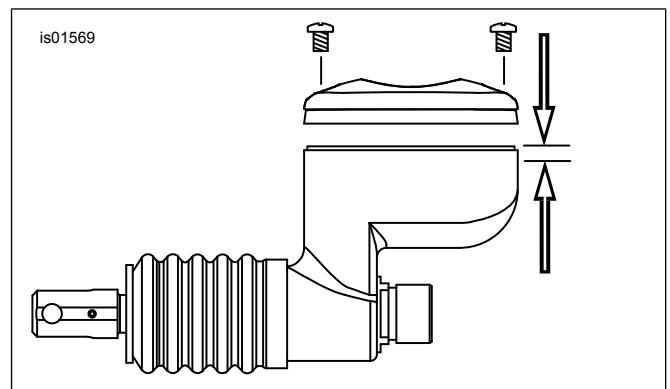

Figure 3. Reservoir Fill Level 1/8 in. (3.2 mm) Below Gasket Surface
3. See Figure 3. Refer to the appropriate Owner's Manual and fill the reservoir with the indicated brake fluid to 1/8 in. (3.2 mm) below the gasket surface.